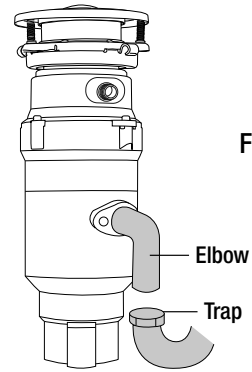

Fig. 11
- Adjust the disposer position to make the elbow line up with the trap (see Fig. 11).